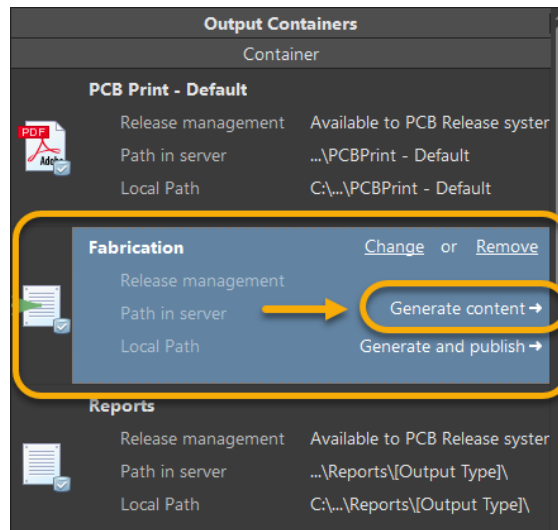

Figure 11. Generate Content - Fabrication Container
33. Change the focus to the *Fabrication.OutJob* file and the output container *Fabrication*. Click on the **Generate content** to generate a set of Fabrication files (Gerber, NC Drill, PCB ASCII, and IPC-2581) as shown at Figure 11.